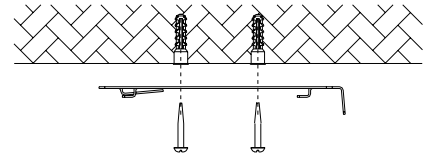

Fig. 2.3
3. Secure the mounting plate to the ceiling with the wall anchor and screws (Fig 2.3).